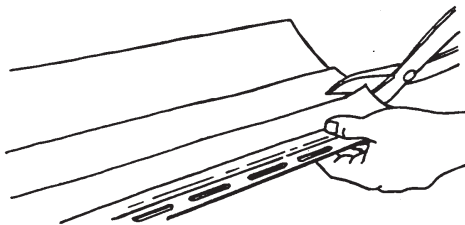

Figure 20.
- With tin snips, avoid closing the blades completely at the end of a stroke for a neater, cleaner cut (Fig. 20).